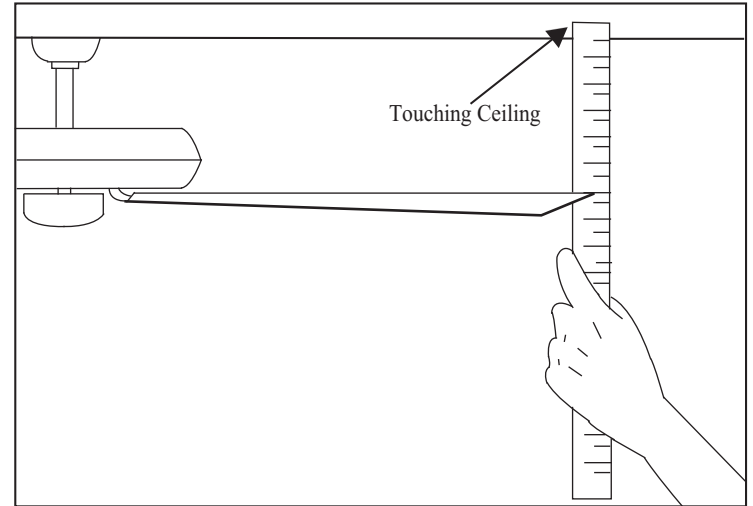

Figure 13
2. Most fan wobble problems are caused when blade levels are unequal. Check this level by selecting a point on the ceiling above the tip of one of the blades. Measure from a point on the center of each blade to the point on the ceiling. Measure this distance as shown in Figure 13. Rotate the fan until the next blade is positioned for measurement. Repeat for each blade. Measurements deviation should be within  $1/8"$ . Run the fan for 10 Minutes.